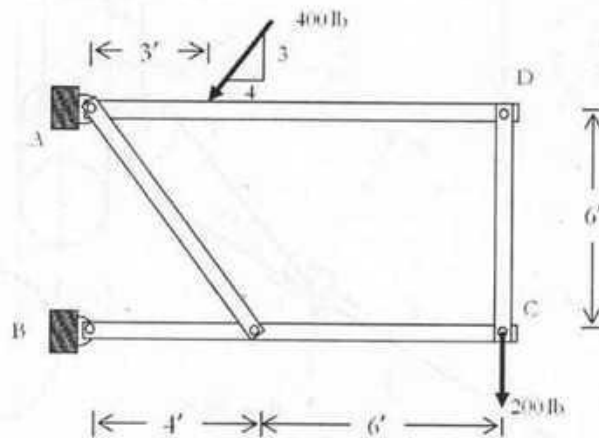

Figure-6
6. In the figure-6 shown below, determine support reactions at A & B and all other internal pins. Identify two-force members and determine the forces in those members. Assume all the members of the framework are weightless.